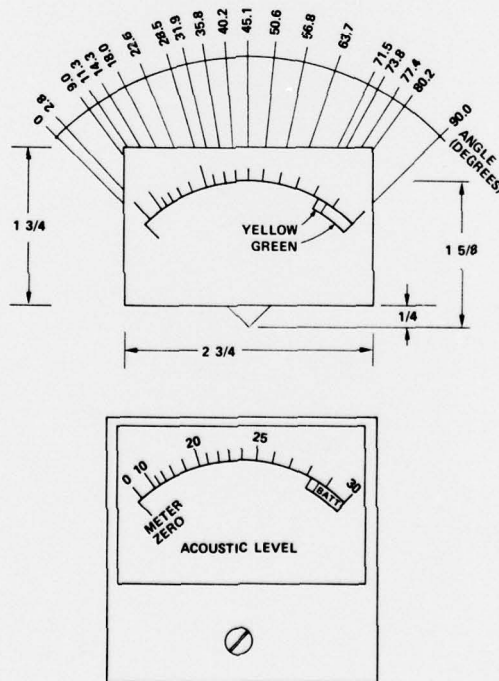

Figure B-1. Milliammeter Modification
The face of the milliammeter shall be modified as follows: (refer to Figure B-1).
- Replace the linear scale with the logarithmic scale as shown in Figure B-1.
- The numerals "0", "10", "20", "25", and "30" shall be placed above the scale as shown in Figure B-1.